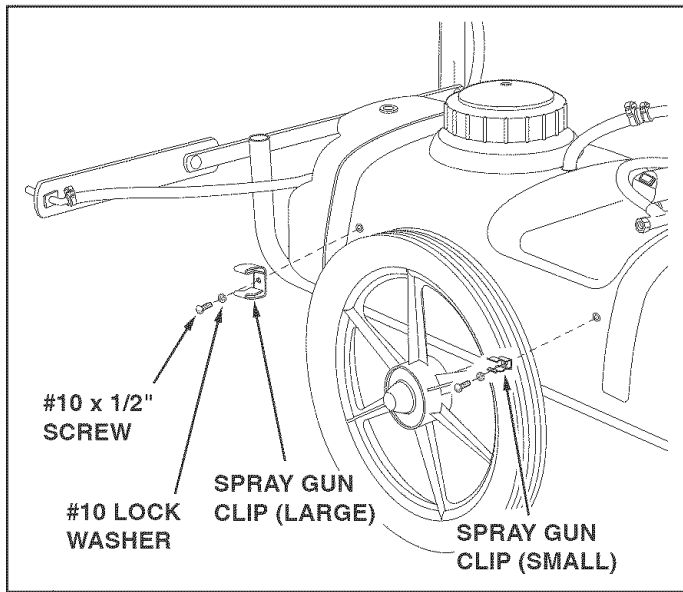

FIGURE 7
- Assemble the large and small spray gun clips to the side of the tank using two #10 x 1/2" screws and #10 lock washers. See figure 7.
- Snap the spray gun into the clips on the front of the tank. (The large clip holds the spray gun handle and the small clip holds the wand.) Refer to figure 7.